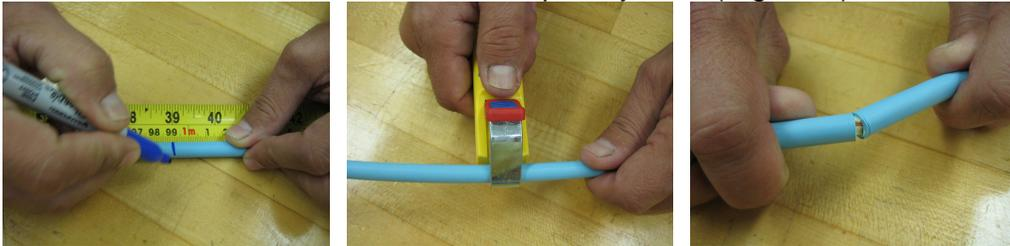

Figure 1 – Ring cut and separating the cable jacket.
4.1 Mark the cable jacket at the required breakout length. Ring cut the cable jacket at the mark and flex the cable to snap the jacket (Figure 1).